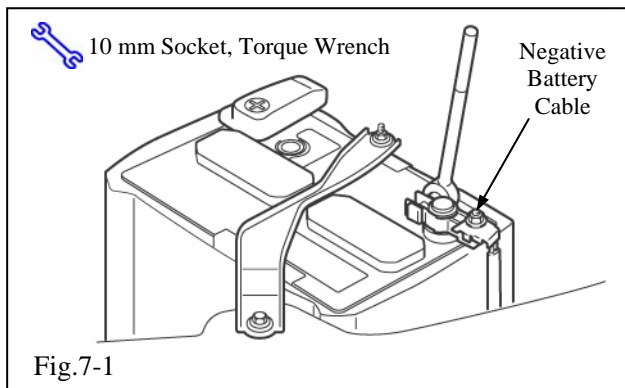

Fig.7-1
- (a) Reconnect the vehicle's negative battery cable. (Fig. 7-1)
- (1) Position the negative terminal to the battery as shown (original factory position.).
- (2) Tighten the nut to 4.1 N·m (36 lbf·in).
- (3) Do not touch the positive terminal with any tool when installing the cable.